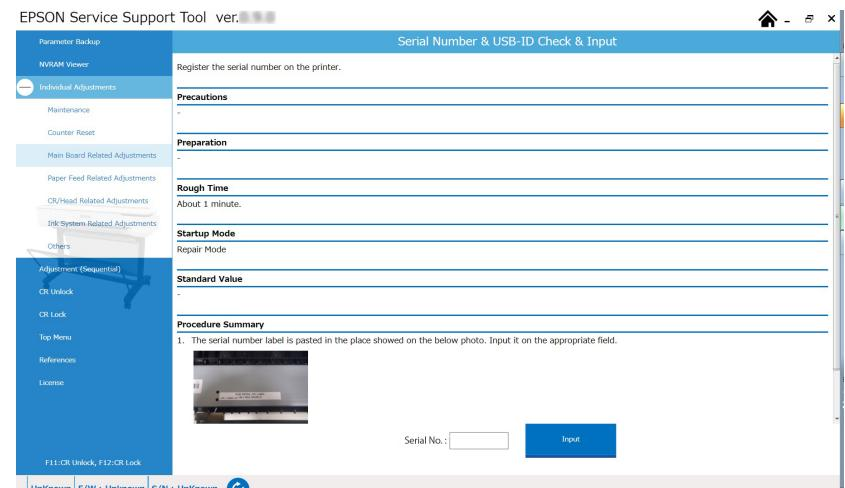

Figure 4-98. Serial Number & USB-ID Check & Input screen
3. Refer to Figure 4-98, and input the serial number written on the label pasted on the printer.